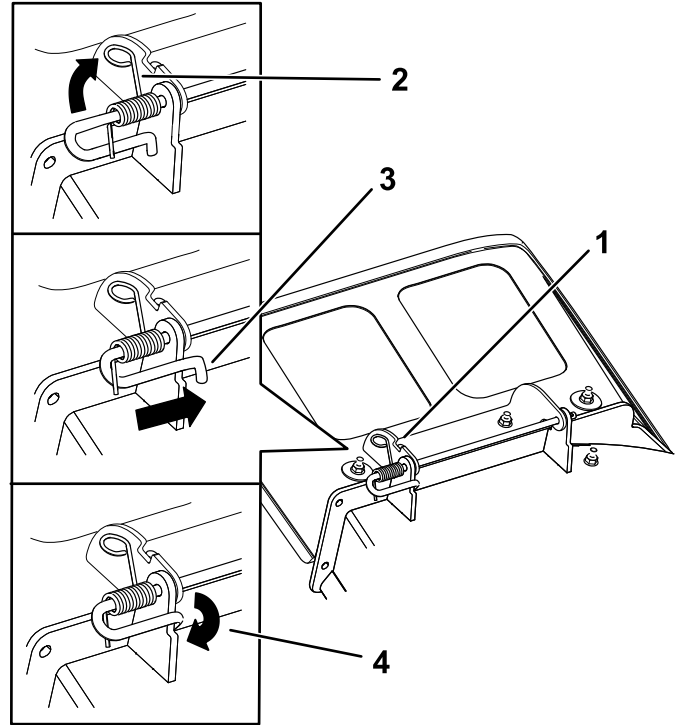

Figure 79
3. Position the new discharge deflector with the bracket ends between the welded brackets on the deck as shown in Figure 79.
5. Position the spring on the rod as shown in Figure 79 so that the shorter spring end comes from under the rod before the bend and going over the rod as it returns from the bend.
6. Lift the loop end of the spring and place it into the notch on the deflector bracket (Figure 79).
7. Secure the rod and spring assembly by twisting it so that the short end of the rod is behind the front bracket welded to the deck (Figure 79).